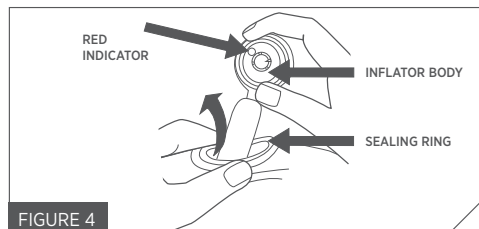

FIGURE 4
4. Squeeze the sealing ring to elongate and remove the inflator body through the sealing ring (Fig. 4).